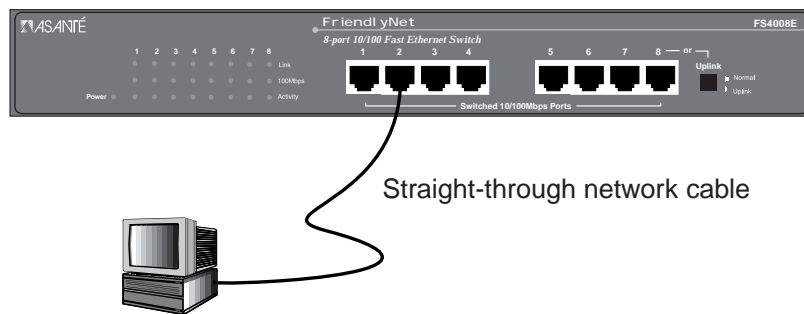

Figure 2-12 Connecting a PC to the Switch
- Connect the PC to any of the Switch's ports. See Figure 2-12